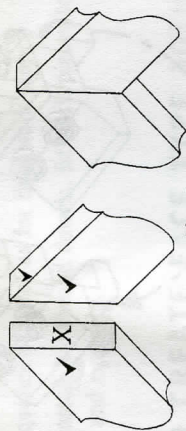

Fig. 9
**TO CREATE MITER JOINTS AS SHOWN IN FIG. 9, FOLLOW INSTRUCTIONS BELOW DIAGRAM:**
1. Mark X on surfaces to be drilled, check marks (✓) on opposing reference surfaces as shown on Fig. 9.